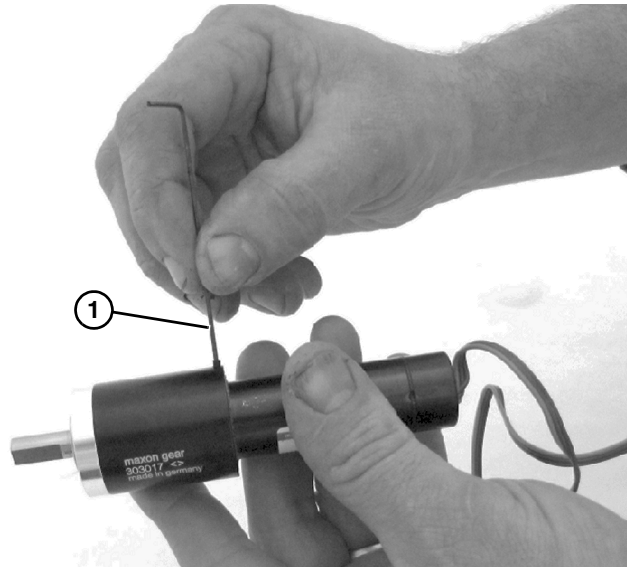

Figure 6
5. Install and tighten M2.5 set screw into gear reducer using 0.050" hex key wrench (**Figure 6, item 1**) provided.